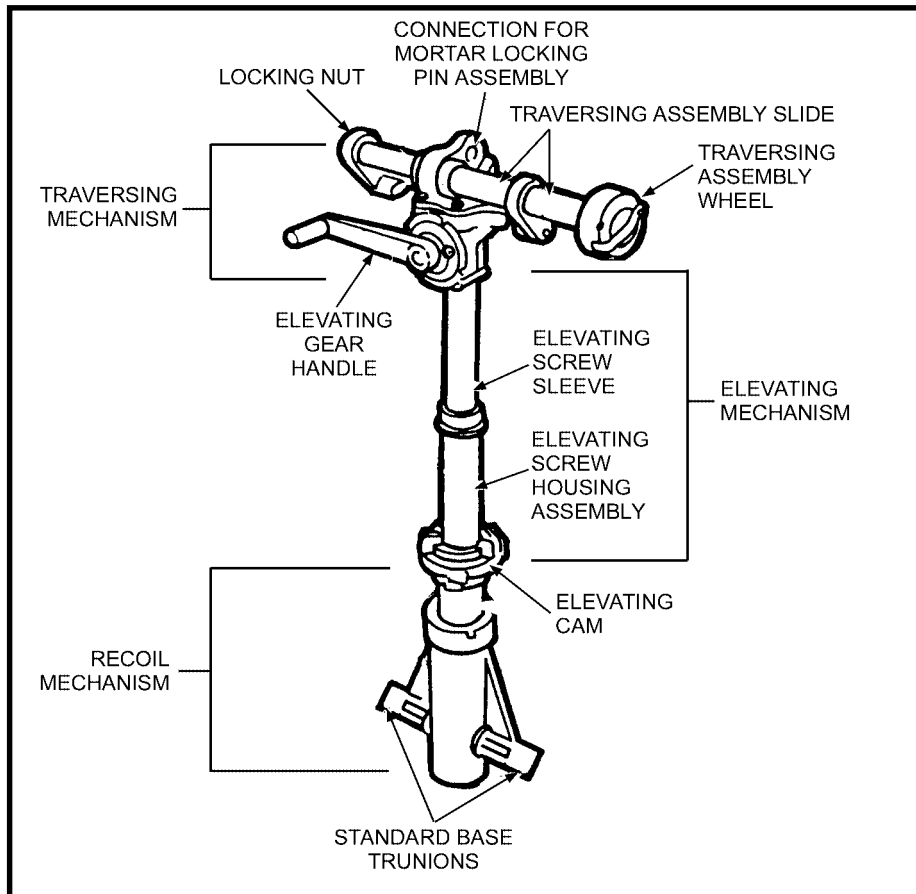
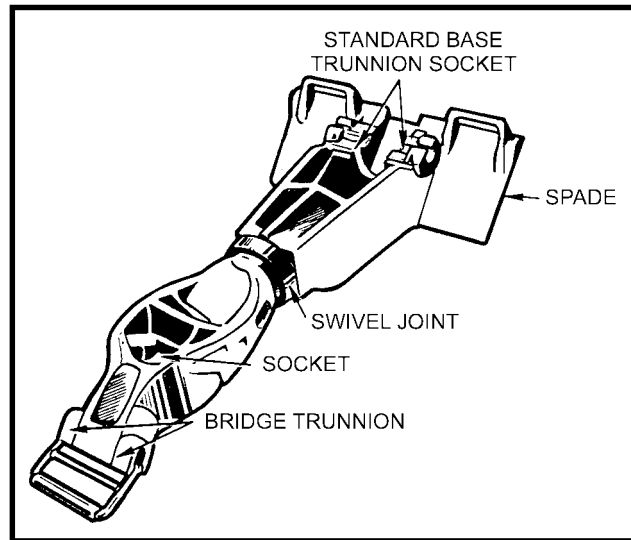

Figure 6-4. Standard assembly with elevating, traversing, and recoil mechanisms.
Figure 6-5. Bridge assembly.
a. **Standard Assembly.** The standard assembly consisting of the elevating, traversing, and recoil mechanisms connects the cannon and bridge assembly or standard support on the turntable (Figure 6-4, page 6-6). It is held to the bridge assembly by two trunnions that fit into sockets on the bridge spade or standard support assembly. The connection for the mortar locking pin assembly on the standard assembly is fastened to the coupling and sight mount assembly by the mortar locking pin assembly. Both the elevating and traversing screws are enclosed.
(1) The elevating gear handle, located in front of the mortar at the top of the standard assembly, is used to elevate or depress the mortar throughout the low or high ranges of elevation. An elevating screw housing assembly in the lower part of the standard assembly makes possible the two ranges of elevation. The desired high or low range is selected by using the elevating mechanism cam located just above the recoil mechanism on the standard assembly.
(2) The elevating mechanism cam (Figure 6-4) locks the elevating screw housing assembly in its low or high range position. This assembly cannot be locked in any intermediate position.
(3) The traversing mechanism (Figure 6-4) consists of an enclosed screw and bearing located at the top of the standard assembly. It is operated by turning the traversing crank on the left side of the mechanism.
(4) The recoil mechanism consists of a series of springs mounted in the lower section of the standard assembly. They are designed to ease the downward shock of firing and to return the mechanism to the prefiring position.
b. **Bridge Assembly.** The bridge assembly (Figure 6-5) consists of two pieces joined by a swivel joint.
(1) The socket end is designed to receive the tube cap. It has a closed slot in the left side of the socket and an open slot in the right side. These slots receive the tube cap trunnions. Two bridge trunnions behind the socket fit into the bridge trunnion socket on the rotator.
(2) The spade at the front of the bridge assembly facilitates the digging action of the bridge assembly during firing. Two steel trunnion sockets to the rear of the spade hold the standard assembly.